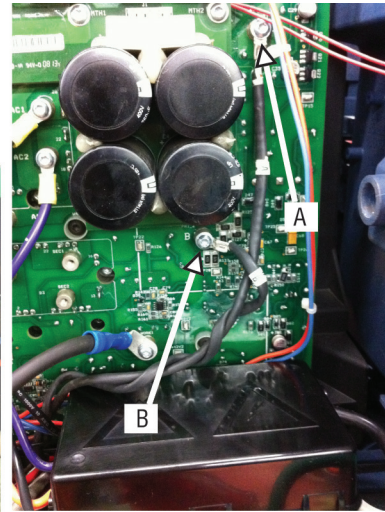

Figure 15: Transformer Wires After Relocation
9. Pull the contactor away from the PCB and expose the harness wires attached to the LINE side of the contactor in the previous step. Move the previously detached 'A' and 'B' black sleeved wires from in front of, to behind the contactor wires #1, #2, #5 & #6. Re-attach the 'A' and 'B' wires to the Main PCB. Keep wires twisted as original and run over the top of the enclosure. Figure 15. Cut the wire tie on the contactor harness, Figure 16. Rotation of the CE Filter ground wire may be necessary for fit of the contactor box. Figure 17.
13. Re-attach the worklead 'Work1' connection and torque to 17 +/-1 in/lbs. Connect the internal gas filter hose previously removed. Orient transformer and Contactor wires so that they are not pinched or pressed up against the PCB and the installed enclosure top. Also see Figure 15.